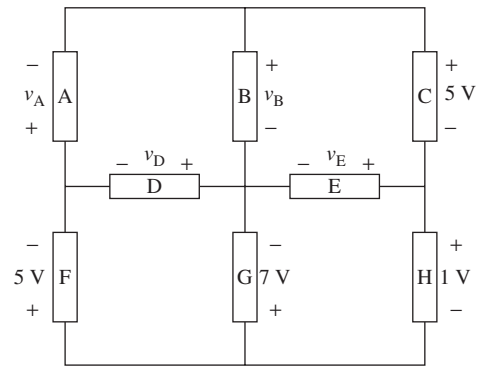

FIGURE P2.34 Circuit for Problem 2.34.
2.34 (H) Find v_A , v_B , v_D , and v_E in Figure P2.34: